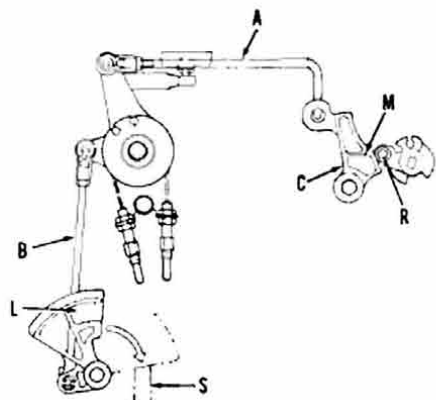

Fig. SZ11-8—View of speed control linkage. Adjust components as outlined in text.
Place twist grip in the full closed position. Stator plate stopper (P—Fig. SZ11-8) should be in contact with cylinder block boss (D). Adjust rod (A—Fig. SZ11-6) length until mark (M) on throttle cam (C) is centered with roller (R). Rotate twist grip to the full throttle position. Stator plate stopper should be in contact with cylinder block boss. Adjust rod (B) length until throttle limiter (L) contacts stopper (S) on bottom engine cover.
To check ignition timing, first immerse lower unit of outboard motor in water. Connect a suitable tachometer to engine. Connect a power timing light to upper spark plug. Start engine and allow it to run until it reaches normal operating temperature. Shift into forward gear and note ignition timing. Timing pointer (T—Fig. SZ11-8) should be aligned with 2 degree ATDC mark (A) on flywheel. Loosen locknut and rotate screw (S) until idle speed timing is as recommended. Maximum advance timing should be 25 degrees BTDC (M) at 5000 rpm. Stop engine and loosen cap screws (C) and slide stator plate stopper (P) in slots to adjust maximum advance timing. Retighten cap screws (C) after recommended maximum advance tim-